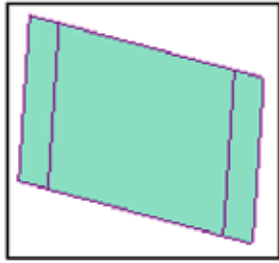

Figure 39: Create regions by boundary
- There are three different rectangular regions when you complete the task as shown in Figure 39.